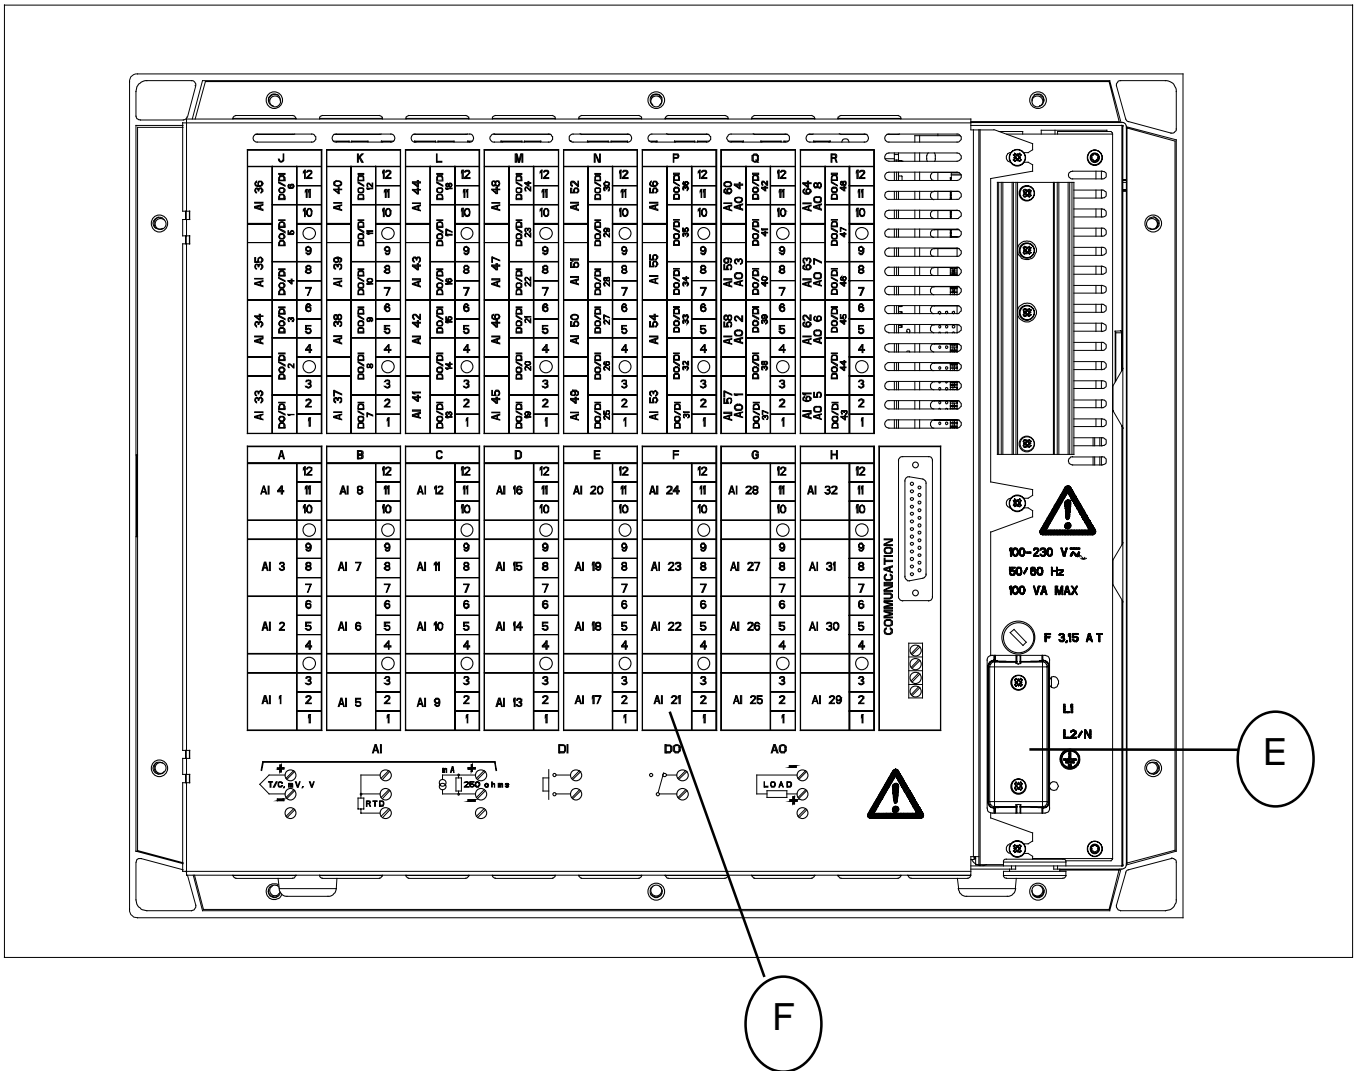

Figure 2-6
6. Remove the terminal block or slot cover location F (see ref. F, Figure 2-6)